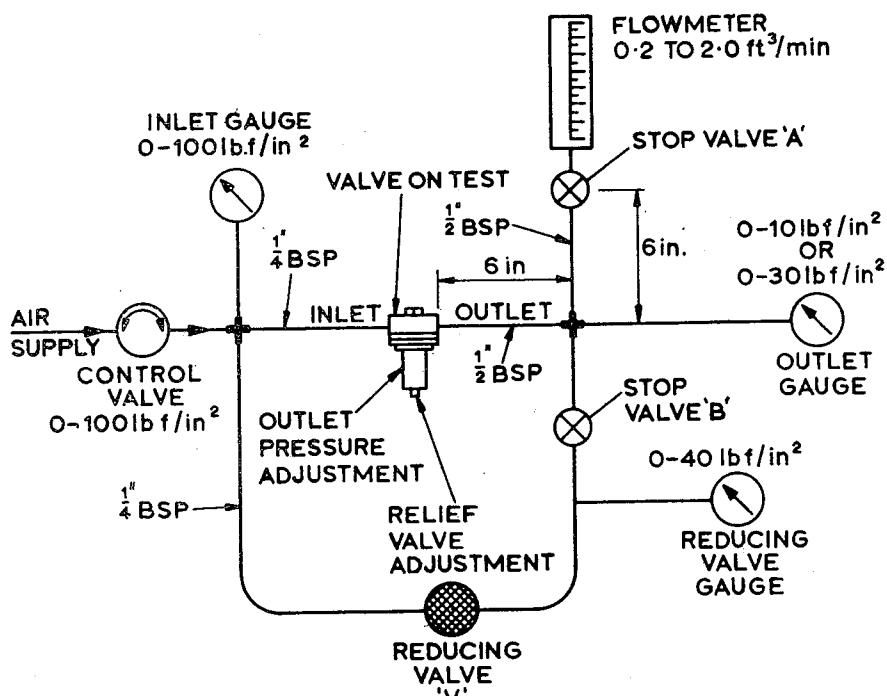

Fig. 3. Test rig
Testing PS 29/4 (fig. 3)
8. (1) Connect the valve to the test rig as shown in fig. 3, with the air supply line connected to the inlet port of the valve.
Testing PS 29/8, Mk. 2 (fig. 3)
9. (1) Connect the valve to the test rig as shown in fig. 3, with the air supply connected to the inlet port.
Testing PS 29/70 (fig. 3)
10. (1) Connect the valve to the test rig as shown in fig. 3, with the air supply connected to the inlet port.